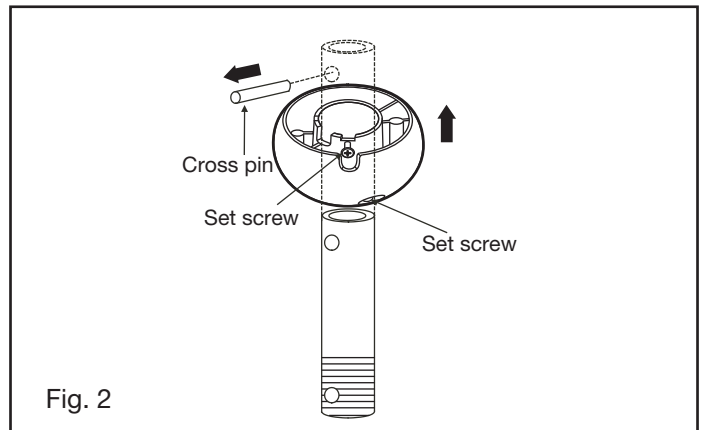

Fig. 2
2. Remove the downrod ball that was supplied with your ceiling fan by loosening the two set screws. Slide the downrod ball off the downrod. Be sure to keep the crosspin supplied with your fans downrod to use with the slope ceiling adaptor ball. (Fig. 2)